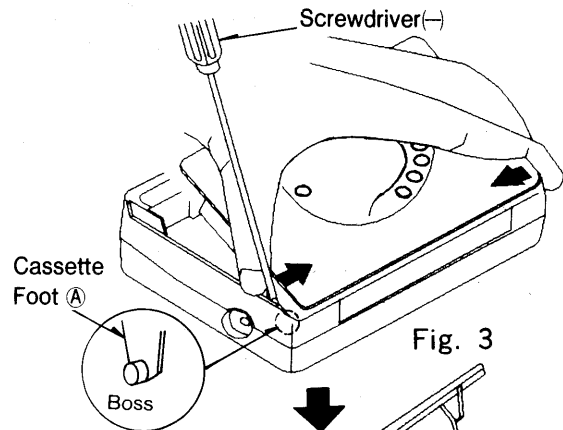

Fig. 3
2. With a (-) screwdriver as shown in Fig 3, and pull out the right-side of the cassette lid.
3. By the direction of ⑥, remove the cassette foot.